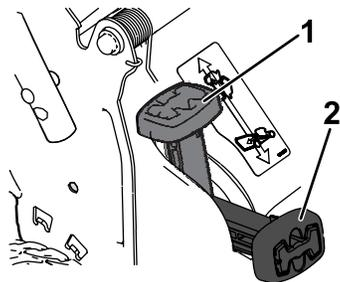

Figure 15
- **To bag the grass and leaf clippings**, press the button on the bag-on-demand lever and move the lever forward until the button on the lever pops up (Figure 15).
Note: If the grass bag is on the machine, remove it before rear-discharging the clippings; refer to Removing the Grass Bag \(page 15\). The bag-on-demand lever should be in the BAGGING position as shown in Figure 15.